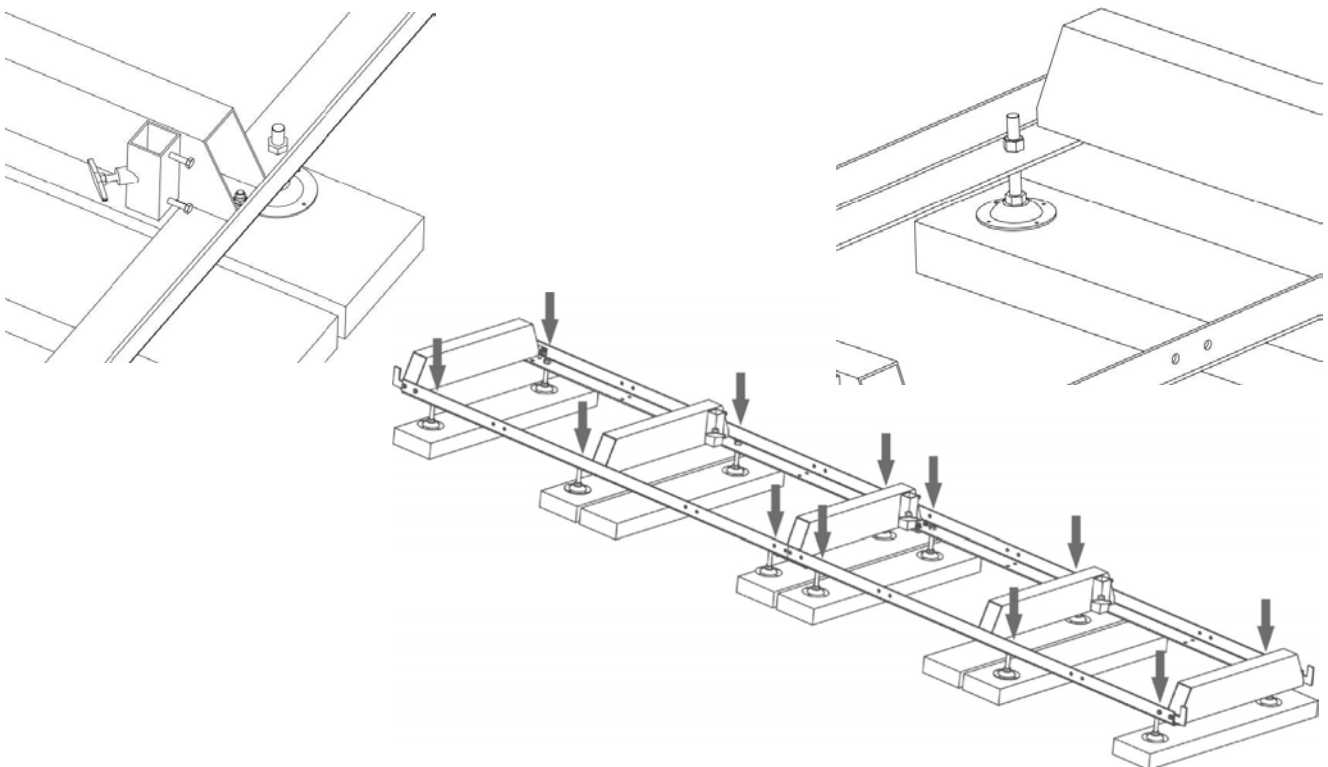

Fig.5-6: Installation of thresholds and leveling
6. Once the sawhead is level, screw the leveling feet to the sleepers (Fig. 5-6). Before screwing the sawhead to the sleepers, be sure to run a string along both sides of the sawhead to ensure the newly installed rails are straight and level.
There are a total of 154 leveling feet on the machine. The leveling feet alternate on the intermediate bunks. We recommend placing the leveling feet on the sleepers running from left to right, as shown (Fig. 5-6). Make sure the bunks are also level. To do this, use a spirit level, which you place across each bunk from left to right, and a string that you stretch along the entire length of the rails. The string should be approximately 10 mm above the bunks.